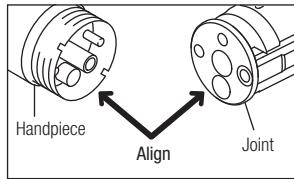

Fig. 11
- 4) Mount the Joint into the handpiece. Make certain the pipe and joint together. (Fig. 11)